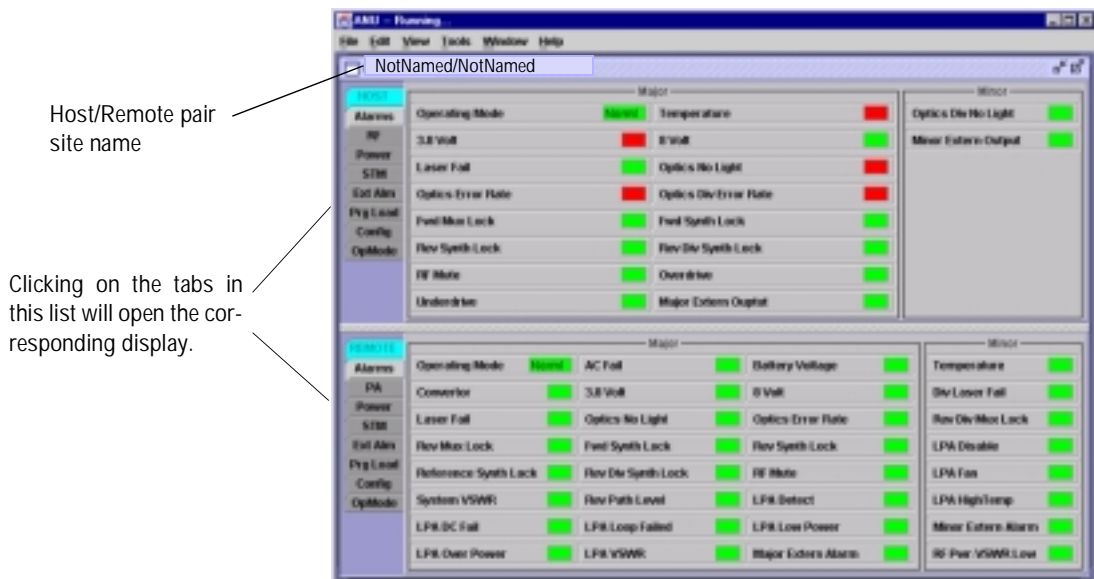

Figure 4-2. Selecting Display Tabs
9. Open the **View** drop down menu and select the “NotNamed/NotNamed” Host and Remote pair. The **HOST Alarms** display and the **REMOTE Alarms** display will open within the main window as shown in Figure 4-2.
11. Click on the **HOST Config** tab and on the **REMOTE Config** tab (see Figure 4-2). The **HOST Config** display and the **REMOTE Config** display will open within the main window.
13. Click on the **HOST RF** tab (see Figure 4-2). The **HOST RF** display will open within the main window.
17. Click on the **REMOTE PA** tab (see Figure 4-2). The **REMOTE PA** display will open within the main window.
21. Click on the **HOST RF** tab (see Figure 4-2). The **HOST RF** display will open within the main window.